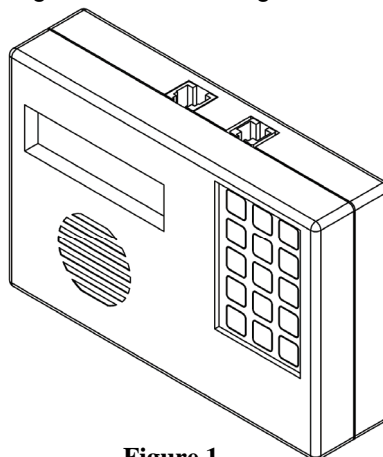

Figure 1
2. There are two cables located at the top of the auto dialer. One two-wire cable labeled **TEL LINE** and one four-wire cable for power and alarm. See Figure 1. The two-wire cable is already connected into the auto dialer jack on one end. The other end should be connected to a telephone outlet.